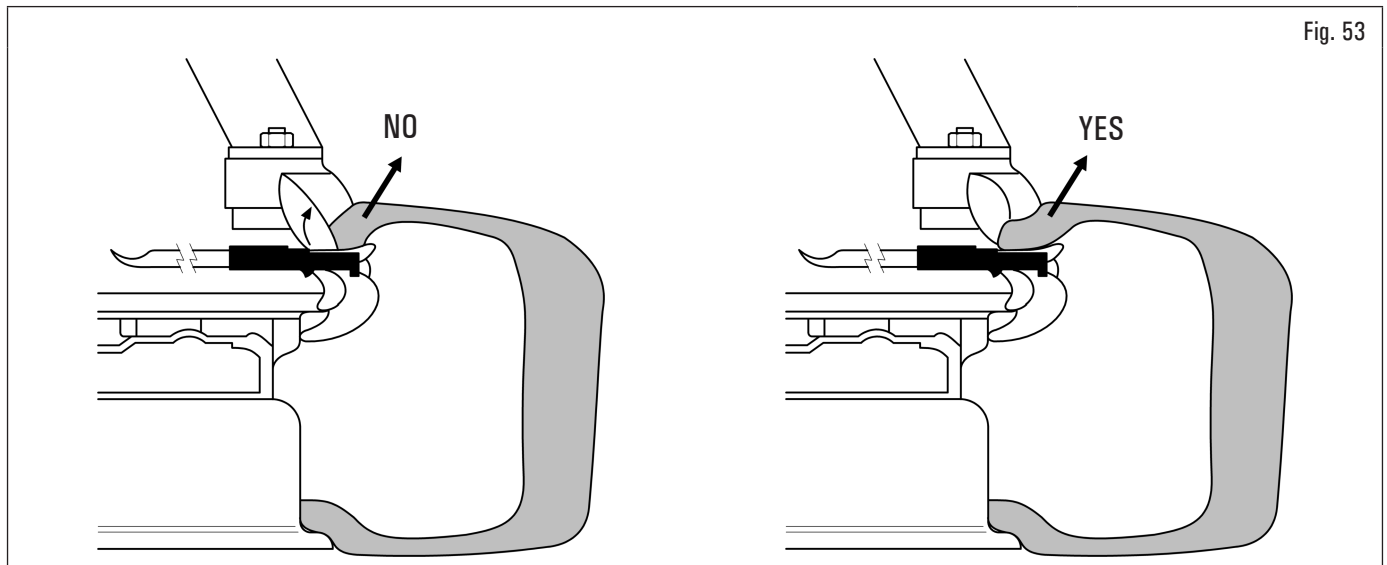

Fig. 53
13. When demounting hard tyres, the bead may come onto the toolhead with the lip turned. This causes the bead to slide from the lever when clockwise rotation begins. To avoid this problem rotate the wheel slightly anti-clockwise until the bead flattens. Now the clockwise demounting cycle can begin (see Fig. 53).